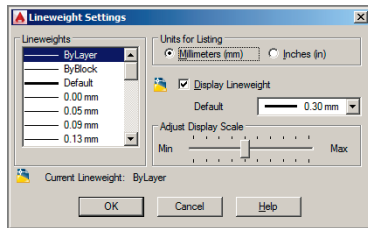

FIGURE 3.3 Adjusting the default lineweight settings
7. Right-click the Show/Hide Lineweight icon, and choose Lineweight Settings from the context menu. Open the Default drop-down list, select 0.012" (or 0.30 mm) (see Figure 3.3), and click OK.